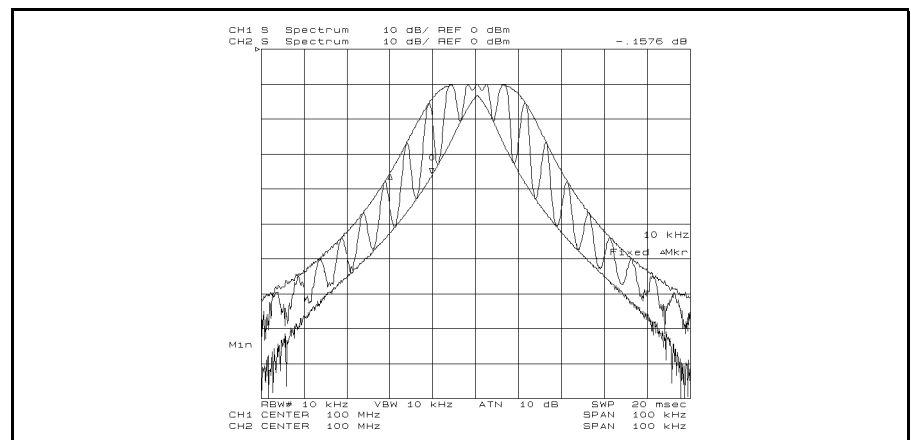

Figure 4-18. Superimposing Spectrum and Envelopes
12. Press **MORE** **SPLIT DISP** **ON off** to **on OFF**. The analyzer superimposes the spectrum on the envelopes as shown in Figure 4-18.